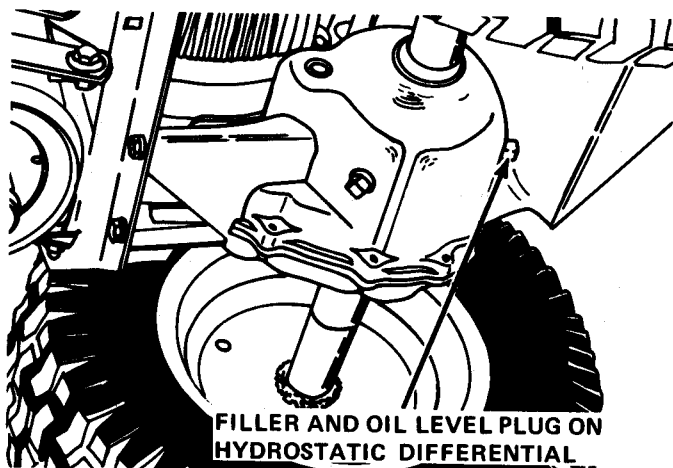

FIGURE 6
2. Remove the oil level and filler plug from the rear of the transmission, Figure 6.